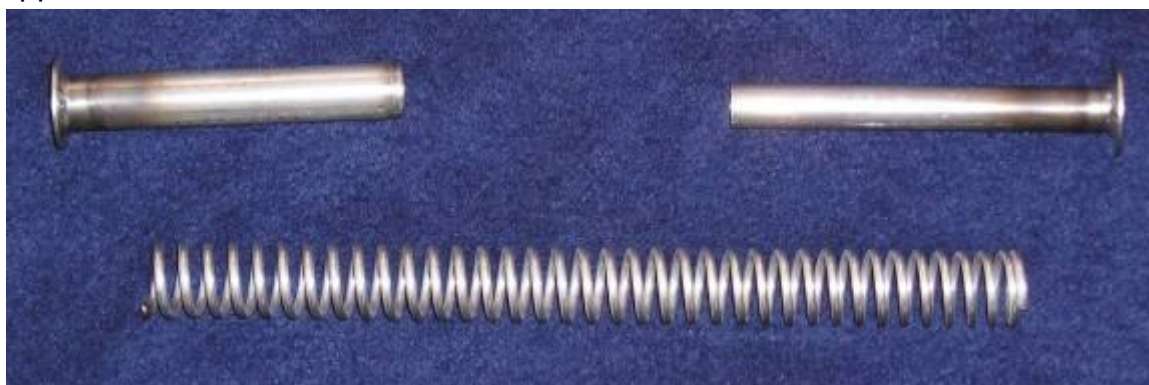

Fig. 4-14
8. Pre-assemble telescopic system with returning spring. The telescopic guide consists of two tubes with washer welded to one end of each, that slide one in the other. The telescope guides support the spring from inside and are itself guided by the 5 mm diameter rod. The parts are shown on Fig. 4-14. The spring has 37 windings and a length of approx. 260 mm.